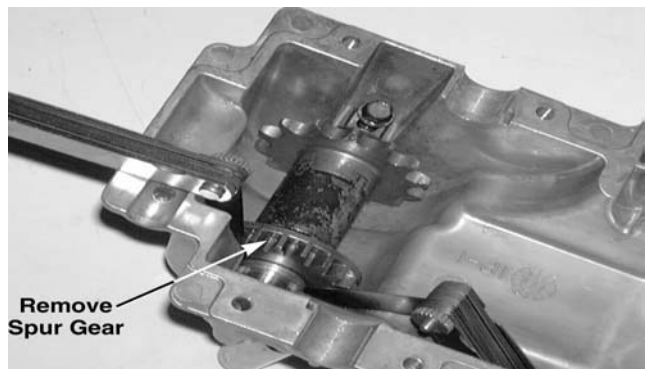

Figure 9-34
11. Place two feeler gauges between the reverse spur gear and the flat washer shim. See Figure 9-34.